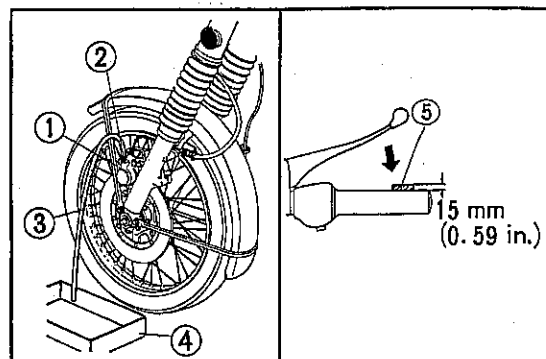

Fig. 33 ① Caliper ② Bleeder ③ Bleeder hose ④ Drip pan ⑤ Rubber
4. As shown in Fig. 33 attach a piece of rubber about 15mm thick to the end of the handle grip to decrease the stroke as measured at the tip of the handle lever. Pump the brake lever several times until pressure can be felt. Holding the lever tight, open the bleeder valve about  $\frac{1}{2}$  turn and squeeze the lever all the way down.